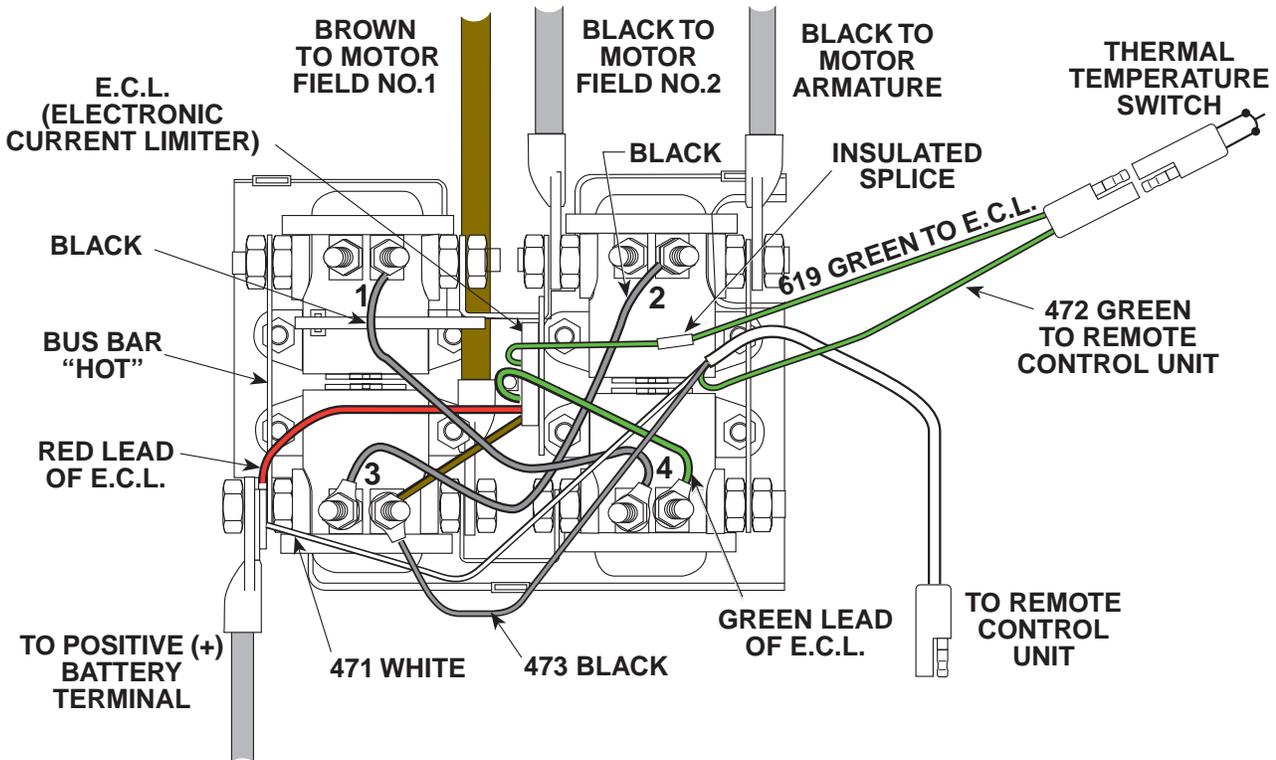

Figure 12-16 Repeat. Winch Testing.
1. If still no power-in, by-pass the ECL as follows: Cut the green ,(#619) wire coming from the thermal switch to the ECL near the splice on the ECL side (Figure 12-16). Take the cut wire coming from the thermal switch and connect it to solenoid #4 on the same terminal that the green ECL wire is attached (Figure 12-16). The winch should operate in both directions. If not, continue with the troubleshooting steps.